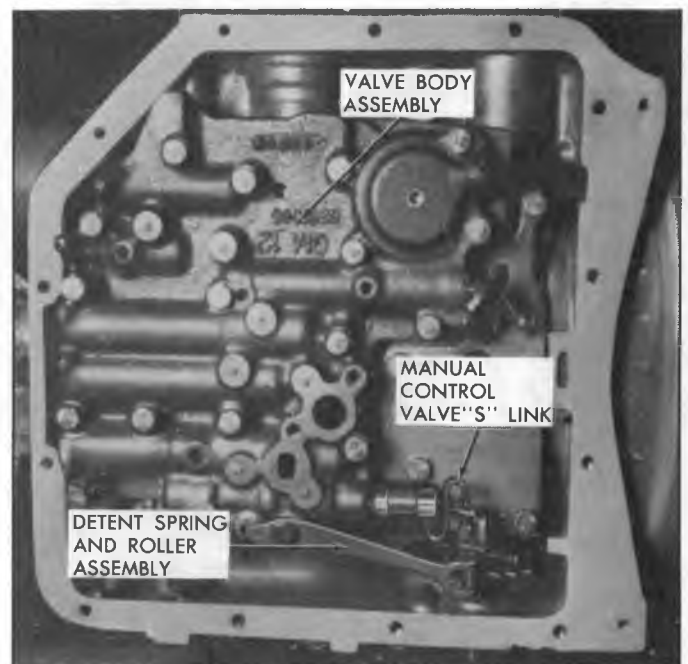

Fig. 12M--Detent Spring and Roller Assembly
1. Remove detent spring and roller assembly from valve body. Remove valve body to case attaching bolts (fig. 12M).